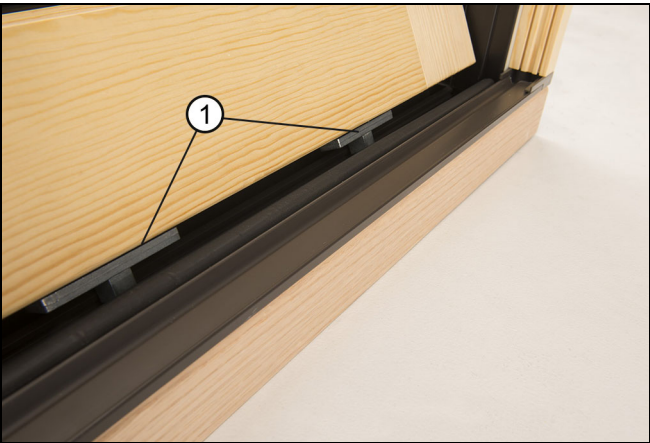

Figure 87
- 2. From the exterior side, tip the panel into place by placing the two sill bolts into the interior track of the sill. See Figure 87.